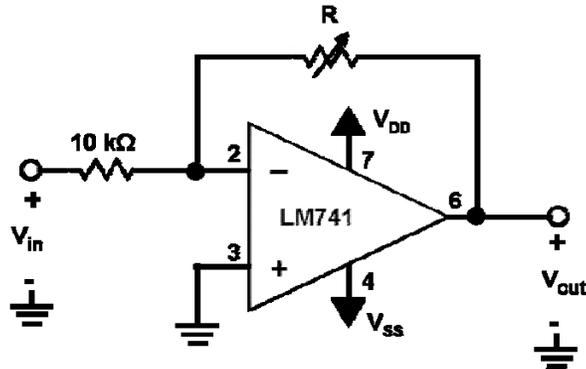

Figure 3: The inverting amplifier
- On your breadboard, build the op amp circuit shown in Figure 3. The numbers correspond to the appropriate pin of the LM741. The circuit element labeled R is an adjustable resistor, which is realized by using a potentiometer.